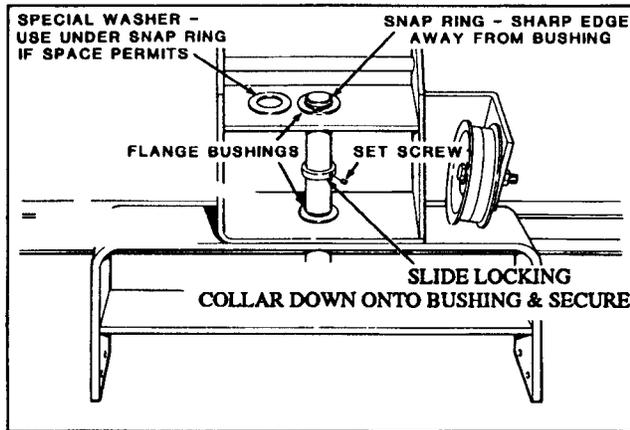

Figure 9
8. Slide the first hole in the hitch frame onto the pin on the pivot frame, followed by a flange bushing (smaller end towards the pivot frame) and the locking collar. (Fig. 9).
9. Slide the pin on the pivot frame through the other hole in the hitch frame, followed by a flange bushing (smaller end towards the pivot frame), a 1" washer (if it will fit), and a snap ring with the sharp edge toward the hitch frame (Fig. 9).
10. With the locking collar centered on the pin between the holes in the hitch frame, secure it in place with a set screw (Fig. 9).